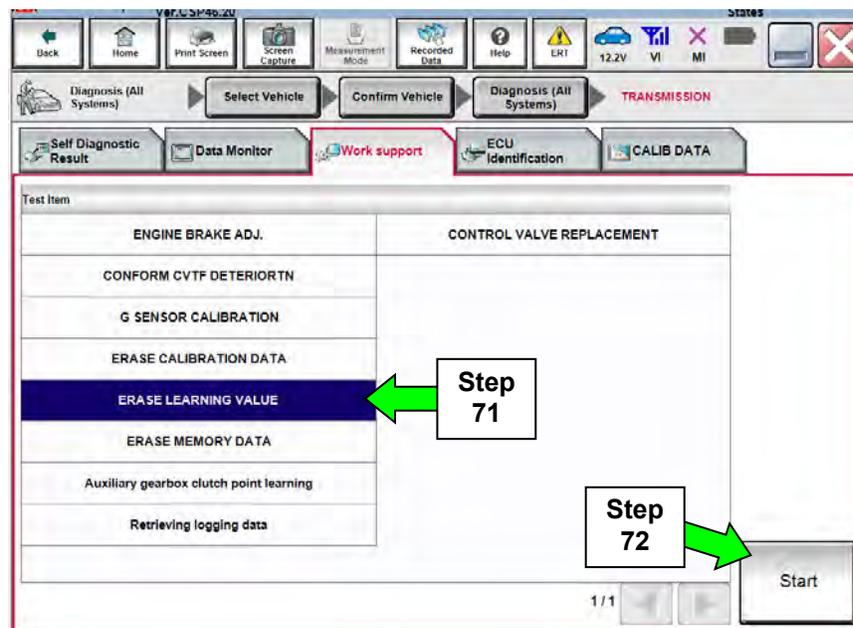

Figure 42
70. Navigate C-III plus to the screen shown in Figure 42.